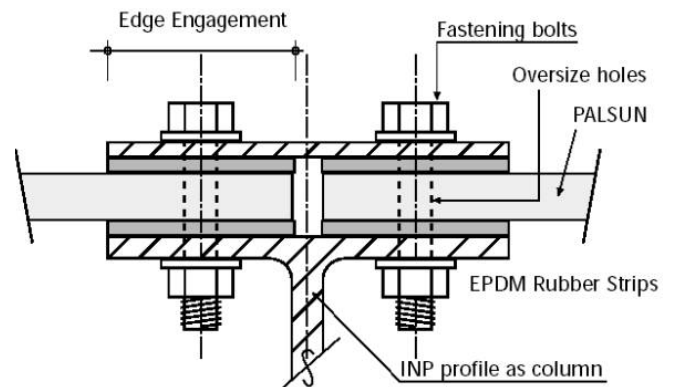

Figure 16. Typical Heavy-Duty Pressure Distributing Bar Clamped Glazing, with Bolts Fastening, in a Sound Barrier
- 5) Bolt fastening with pressure distribution clamping bars, with compatible EPDM strip should be preferred over fastening with separate oversize washers. (Fig.16)